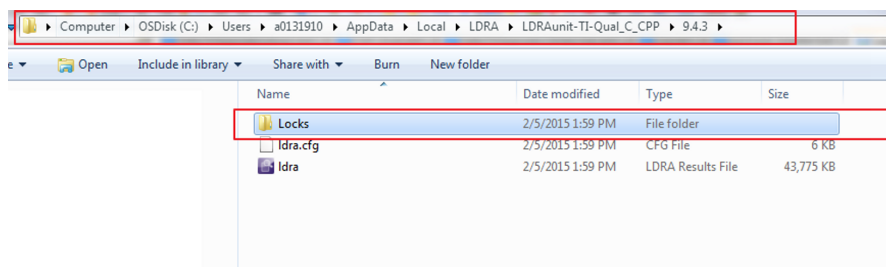

Figure 9. LDRA Analysis Lock
9. In some cases, for example: forcibly closing test execution, ending the test automation task, or due to a power loss when the test execution is running, the LDRA analysis may lock (see Figure 9). This lock must be deleted to allow successful execution of test cases.